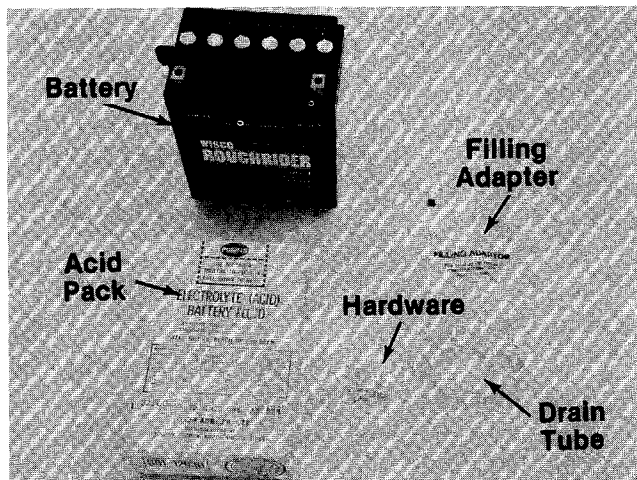

FIGURE 9.
1. Upon opening the battery pack, you should receive acid pack, battery, drain tube, filling adapter and hardware. See figure 9.